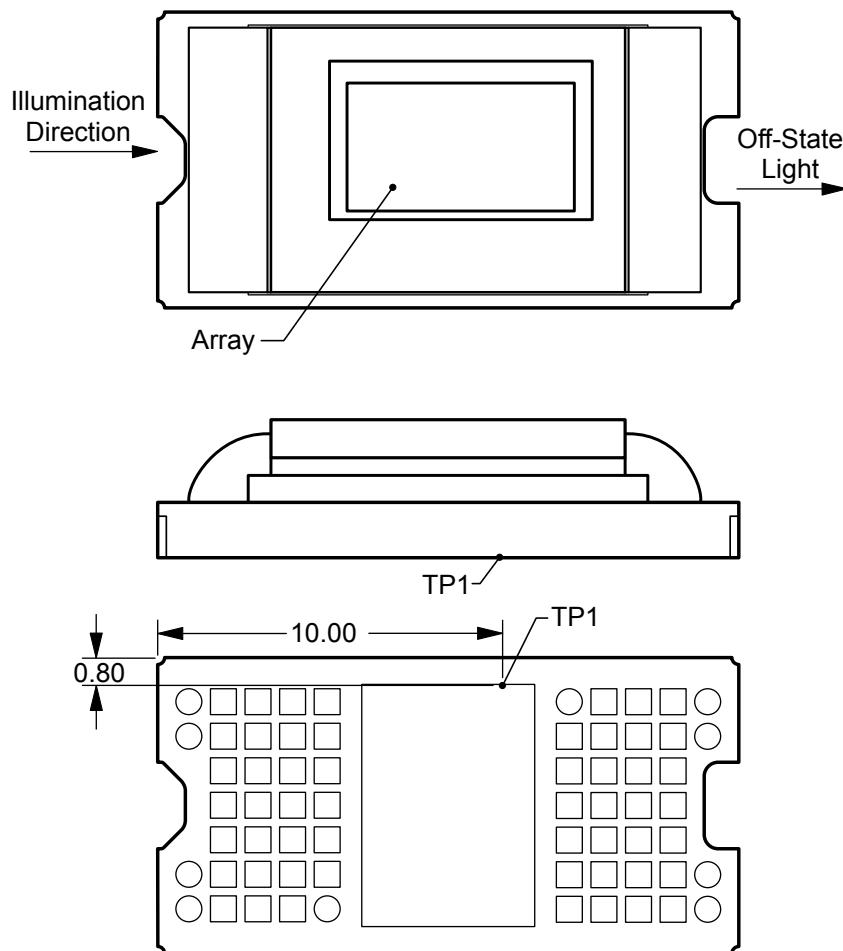

图 7-8. Thermocouple Location
Relationship between array temperature and the reference ceramic temperature (thermocouple location TP1 in 図 7-8) is provided by the following equations.
- $T_{CERAMIC}$  = measured ceramic temperature (TP1 location in 図 7-8) (°C)